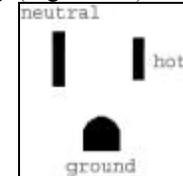

Figure 1-1
- Connect to properly grounded outlet only.(Figure 1-1)